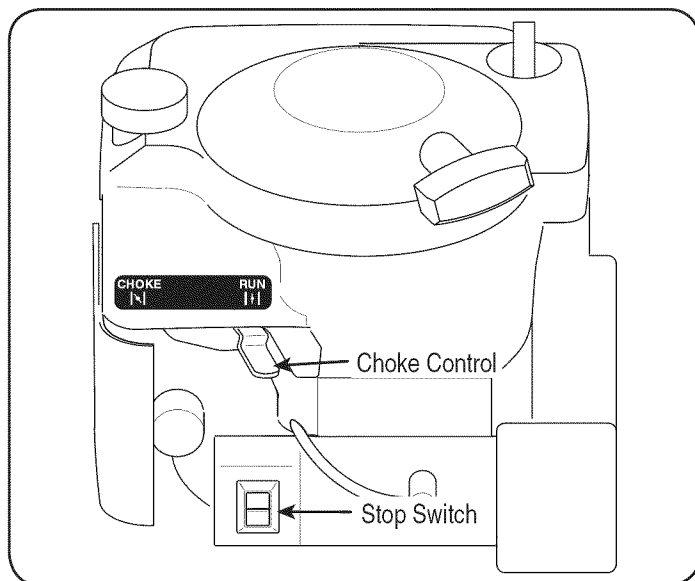

Figure 10
3. Push the stop switch to the ON position. See Figure 10.
4. Move the choke lever to the CHOKE position. (A warm engine may not require choking.) See Figure 10.
1. Push the stop switch to the OFF position. See Figure 10.